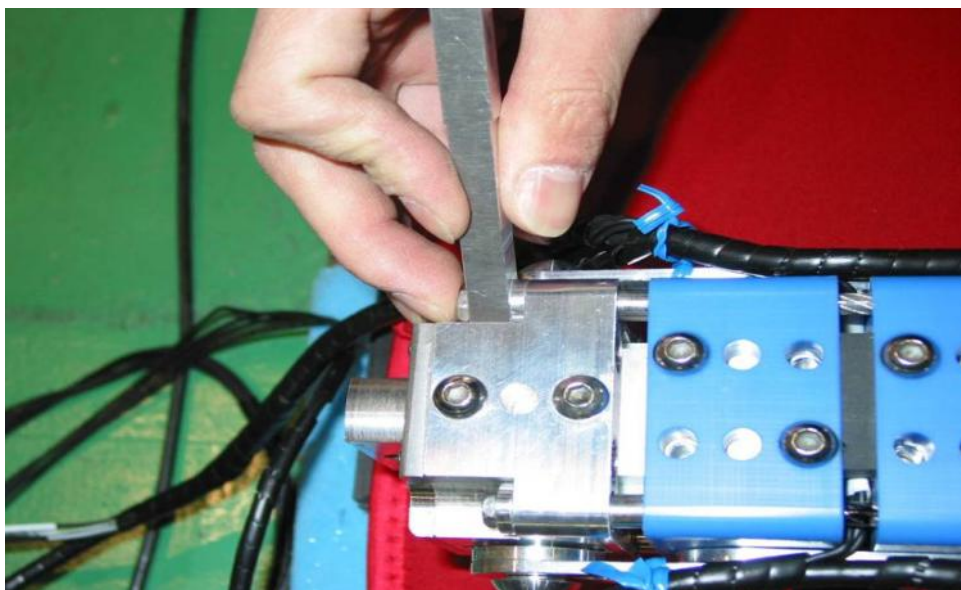

Figure 89 . Stop cable clearance adjustment using setting tool
Step 3: Check the four stop cable clearances passing through the femur are set to 9.1 mm and 10.3 on the tibia. See Figure 89 a special tool 133-5112 is used for this;
Step 3: Check the four stop cable clearances passing through the femur are set to 9.1 mm and 10.3 on the tibia. See figure 89 a special tool 133-5112 is used for this.